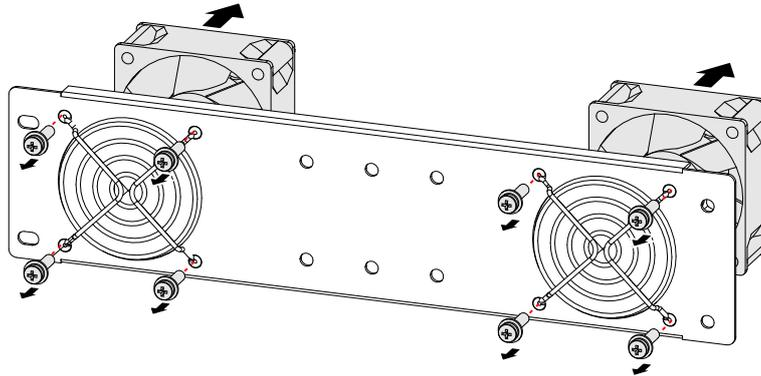

Figure6-3 Dismantle fan
Step 7 Loosen the screws that fixed the fan and take out fans, as shown in Figure6-3.